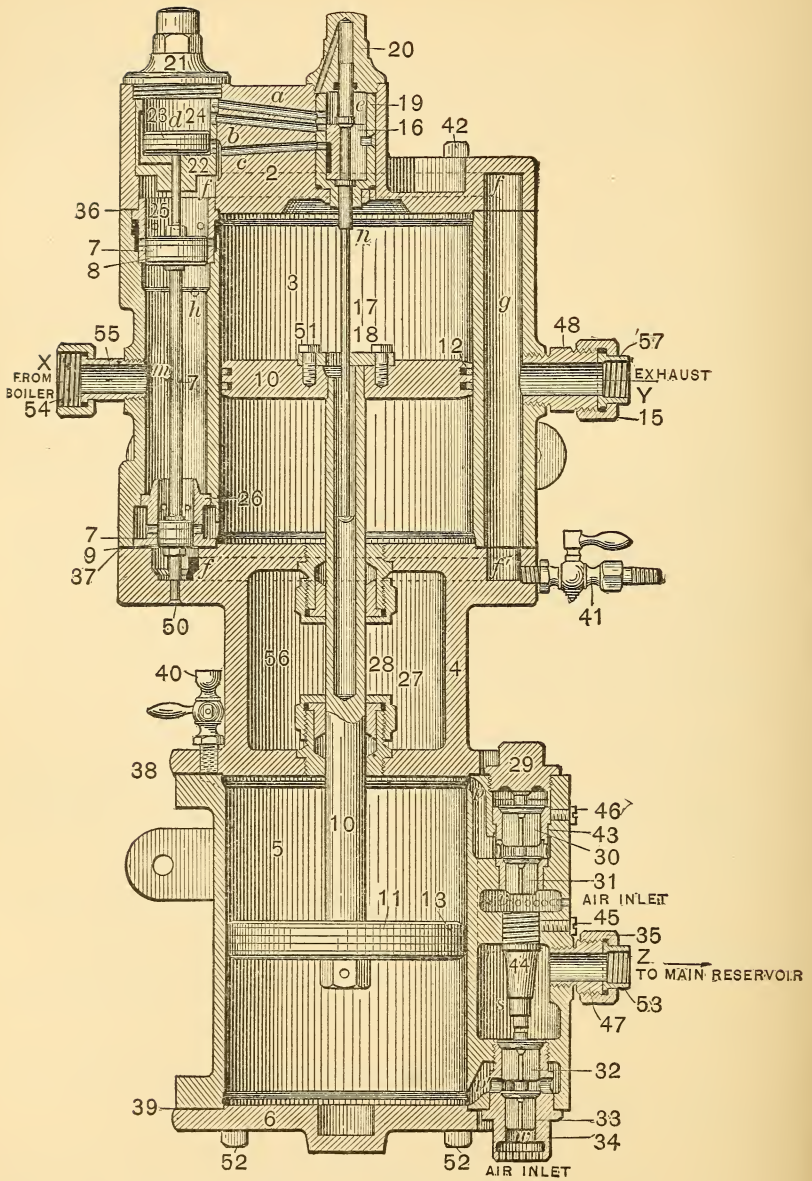

FIG. 38.—8-INCH PUMP.
Piston 23 (Fig. 38), called the reversing piston, is not found in the 9½-inch pump (Plate VII).
Q. As the steam enters the pump at X (Fig. 38), where is it free to pass?
*Q. The pistons 7 (Fig. 38) are of unequal size, and the upper piston 7 and piston 23 are the same size. What happens when steam enters chambers *m* and *e* with the reversing slide valve in its present position?*
*A. Steam passes through small ports in bushing 26 (Fig. 38), just above the small piston 7, underneath piston 10, forcing it up. At the same time the top end of the steam cylinder is connected with the atmosphere through the upper ports of bushing 25, the port *f*, as shown by the dotted lines, down through *g* and out at *Y*.*
Q. With no pressure acting down on piston 23 (Fig. 38), what happens?
A. Loose packing rings in the main steam piston 10, piston 23, or pistons 7, a bad seat on the reversing slide valve, or the top of stem 17 being a loose fit in the cap nut 20 (Fig. 38).